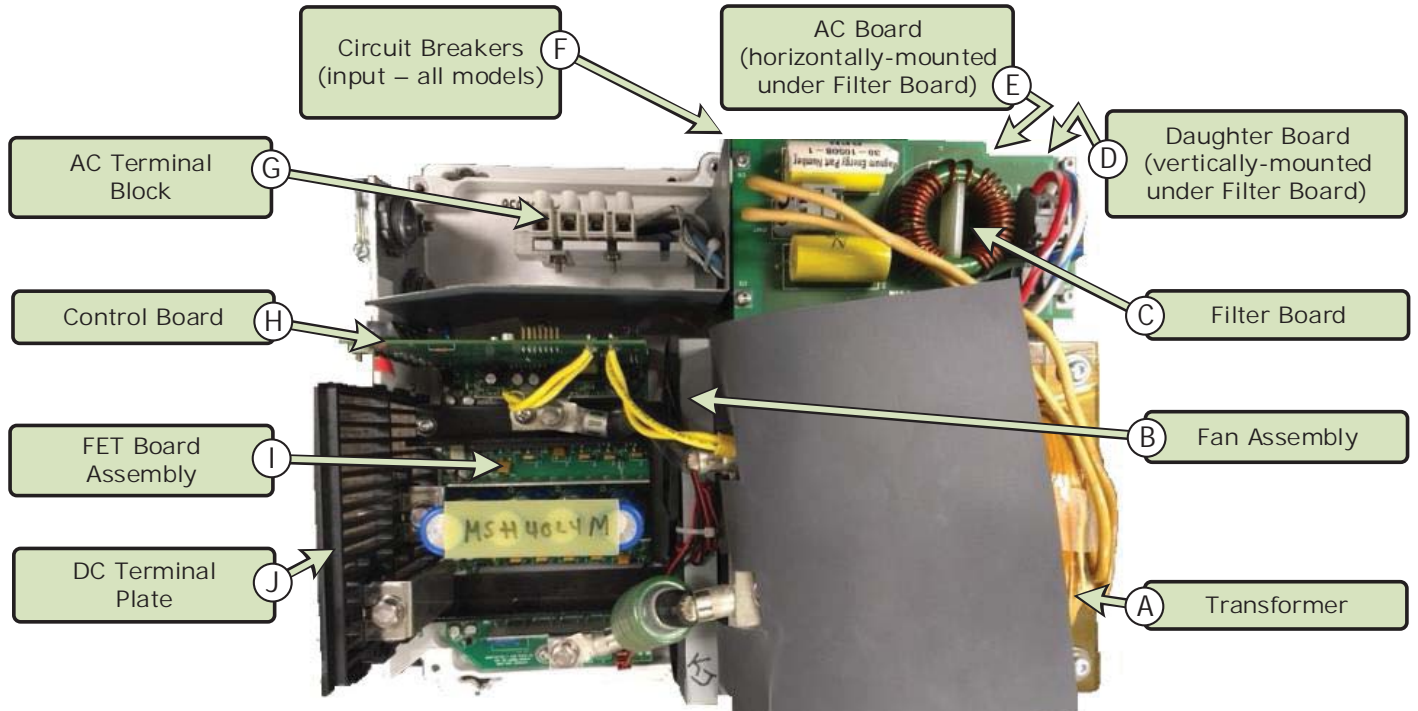

Figure 2, MSH-M Series Inverters – Internal Components
2. After removing the seven Torx screws, remove the top cover by lifting it straight up out of the DC terminal plate (Figures 2 and 3, Item J).